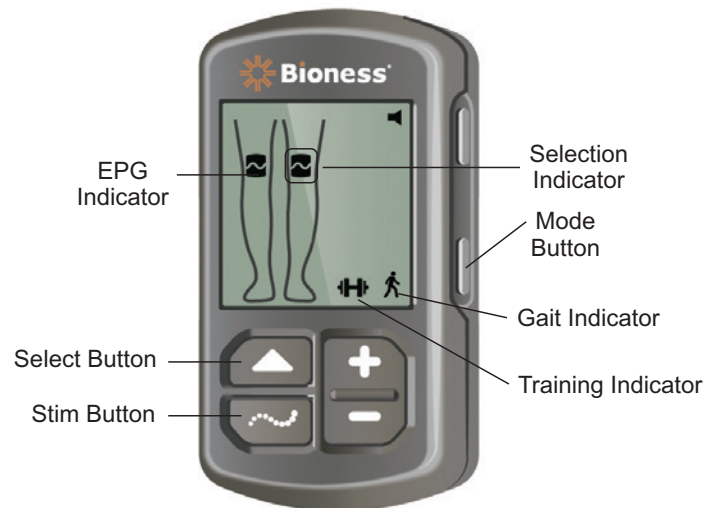

Figure 4-7: Selecting a Operating Mode on the Control Unit
3. The paired EPG(s) will appear in the digital display on the Control Unit with the Selection Indicator icon around the EPG Indicator icon(s). See Figure 4-7. Refer to "Pairing a New Control Unit to the EPG" section for pairing instructions.
4. For patients using both right and left Thigh Cuffs, the Select button on the Control Unit can be used to toggle between the right and left EPG or to select both EPGs. See Figure 4-7.
5. To select Gait mode, press the Mode button on the Control Unit until the Gait Indicator icon appears in the lower right corner of the digital display. See Figure 4-7.
6. To select Training mode, press the Mode button on the Control Unit until the Training Indicator icon appears in the lower right corner of the digital display. See Figure 4-7.
3. To stop stimulation, press the Stim button on the Control Unit. See Figure 4-7.